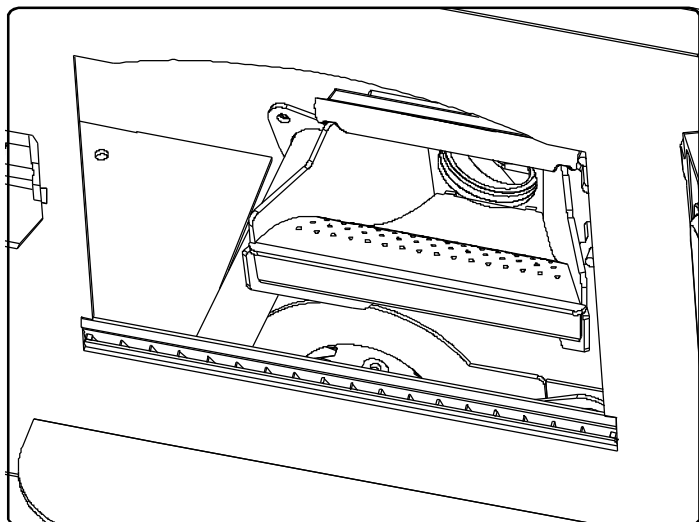

Fig. 34
1. Scrape the top holed surface and sides of the burn pot.(Fig 34) It is not necessary to completely remove all material from the burn pot. The excess will be pushed out during the next use.
2. Loosen the (2) wing thumb screws on the lower front angle of the burn pot. (Fig. 34)